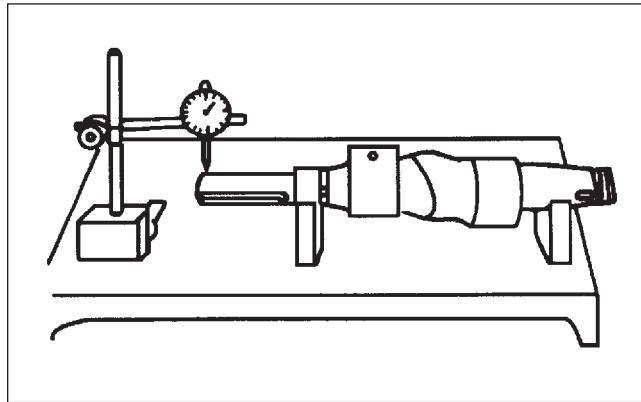

Figure 18
2. Measure the run-out using V-blocks, a dial indicator and a stand. Find a flat surface and measure as shown in Figure 18. The allowable limit for run-out is 0.05 mm - 0.1 mm. The shaft should be replaced if this limit is exceeded.